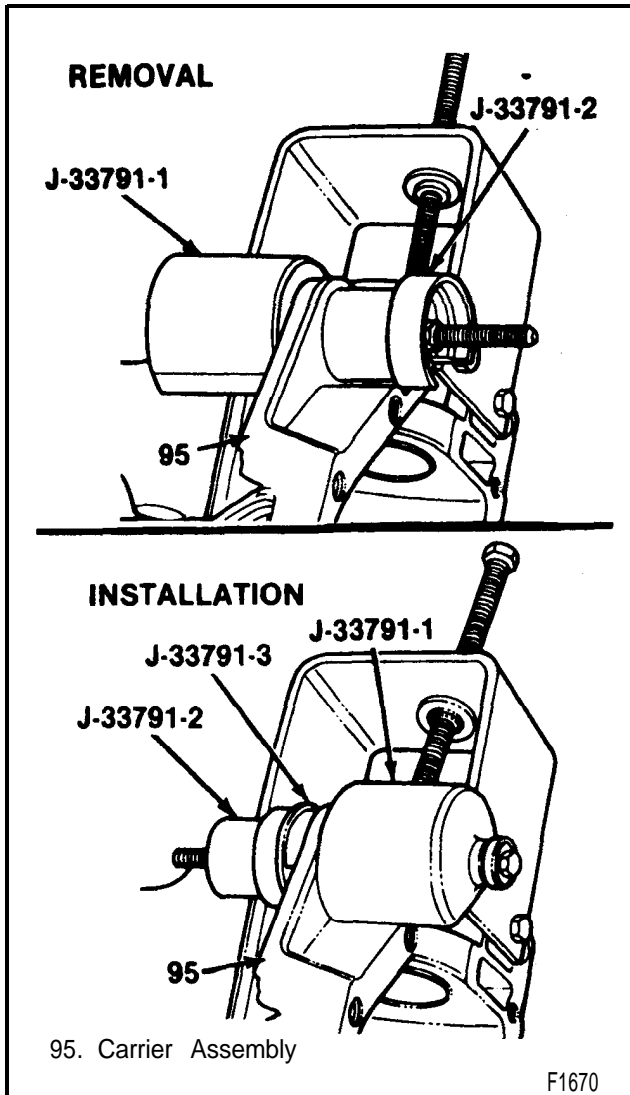

Figure 9 - Replacing the Carrier Bushings
2. Upper or lower bushing (48 or 87) using J 33791 (figure 9).
1. Upper or lower bushing (48 or 87) using J 33791 (figure 9).